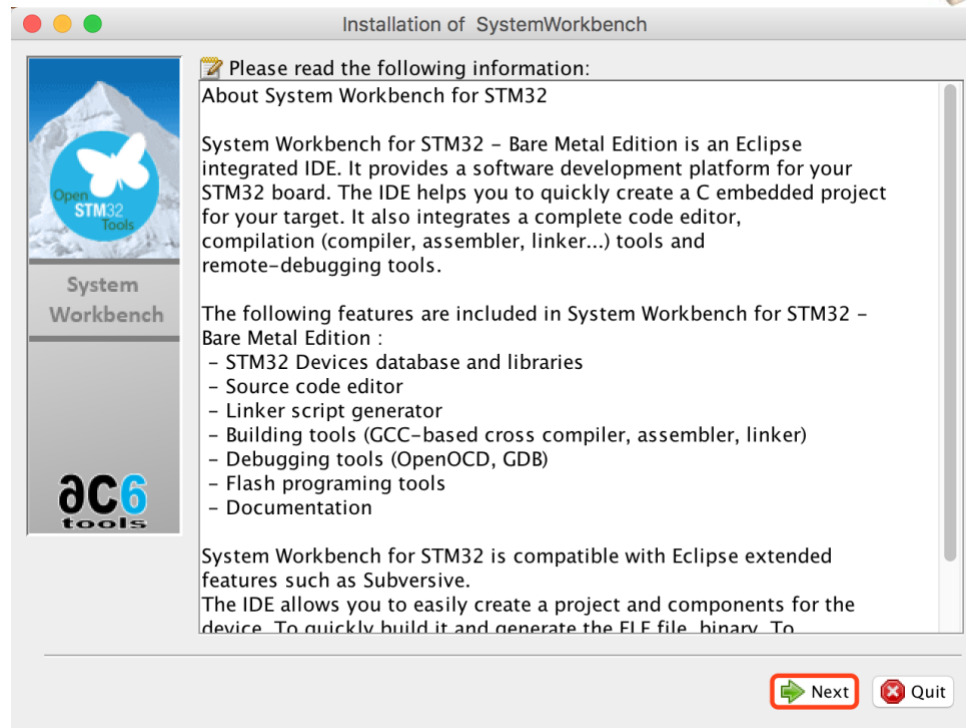

Figure 3: GUI installation interface of System WorkBench
8. Wait for a few seconds, you will see a GUI installation interface popup as Figure 3.